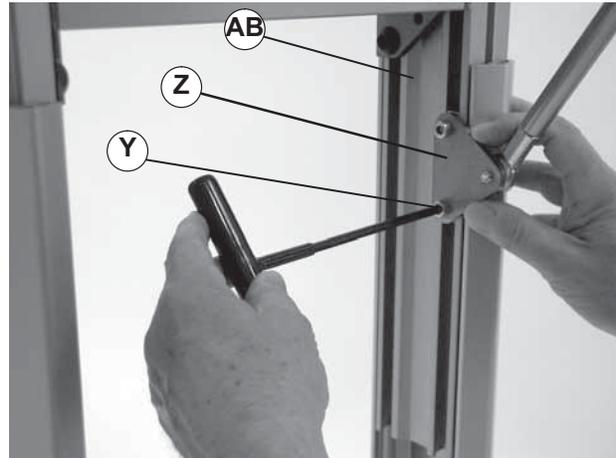

Figure 8
- b. Attach the support stand tie plate (Figure 8, item Z) to the stand (AB) with two (2) socket screws (Y).
- c. Tighten socket screws (Figure 8, item Y) to 100 in-lb (11 N-m).